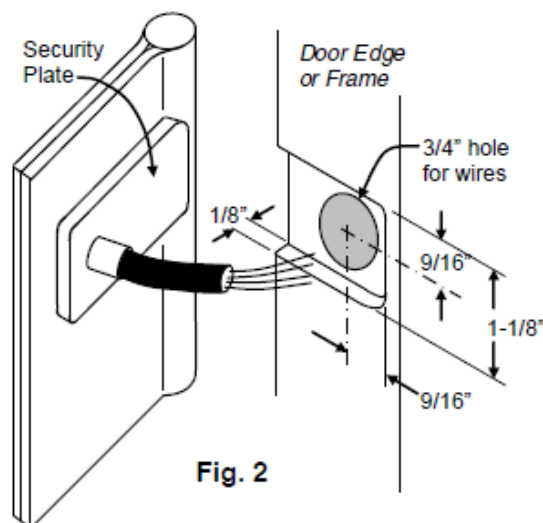

Fig. 2
1. Drill a 3/4" diameter access hole in both the frame rabbet and the door edge at the proper location for the wire leads. Mark the door edge and frame rabbet for the location of the security plate on the back of each hinge leaf. Mortise a 1/8" deep recess for a flush fit. (See Fig. 2) After drilling and mortising, deburr the holes to prevent damage to the wire leads.